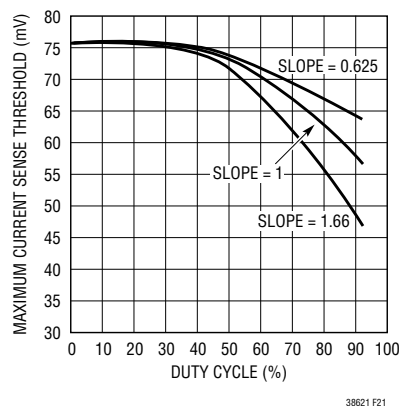

Figure 21. Maximum Sense Voltage Variation with Duty Cycle and Slope Gain
The peak sense voltage threshold for the LTC3862-1 is 75mV at low duty cycle and with a normalized slope gain of 1.00, and is measured from SENSE+ to SENSE-. Figure 21 illustrates the change in the sense threshold with varying duty cycle and slope gain.
11. The maximum current sense threshold for the LTC3862-1 is 75mV at low duty cycle and a normalized slope gain of 1.0. Using Figure 21, the maximum sense voltage drops to 68mV at a duty cycle of 70% with a normalized slope gain of 1, so the sense resistor is calculated to be: